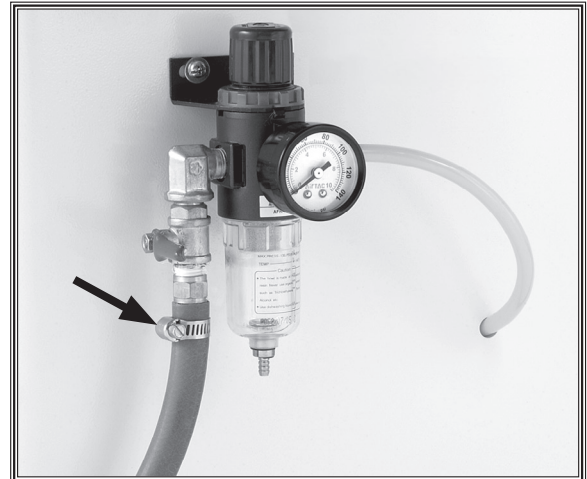

Figure 6. Air hose attached to regulator.
1. Push the air supply hose onto the air pressure regulator inlet fitting, and clamp it in place with a hose clamp as shown in **Figure 6**.